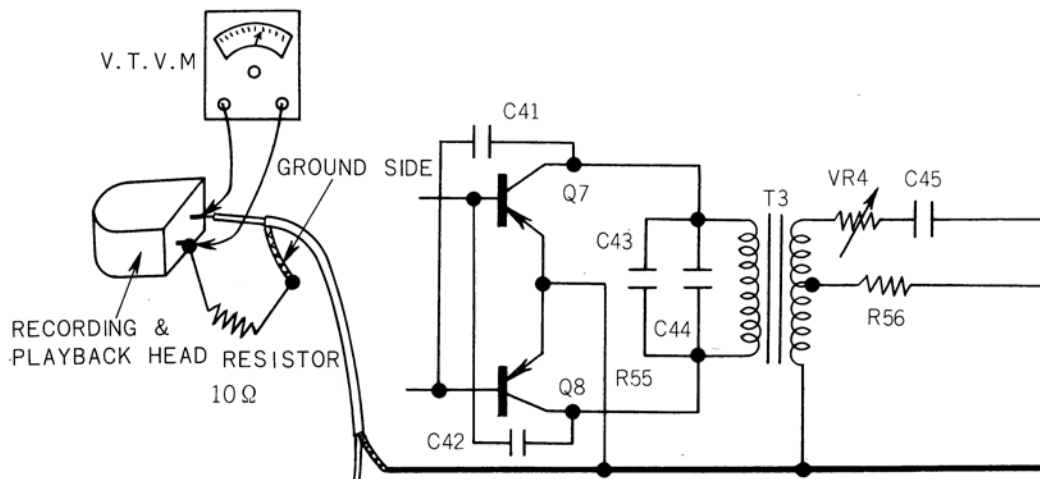

Fig. 8
- c) Measure the voltage after connecting V.T.V.M (vacuum tube voltmeter) as shown in Fig. 8. and adjust the semi-fixed resistor (VR4) so that the voltage shows the value indicated 40mV.